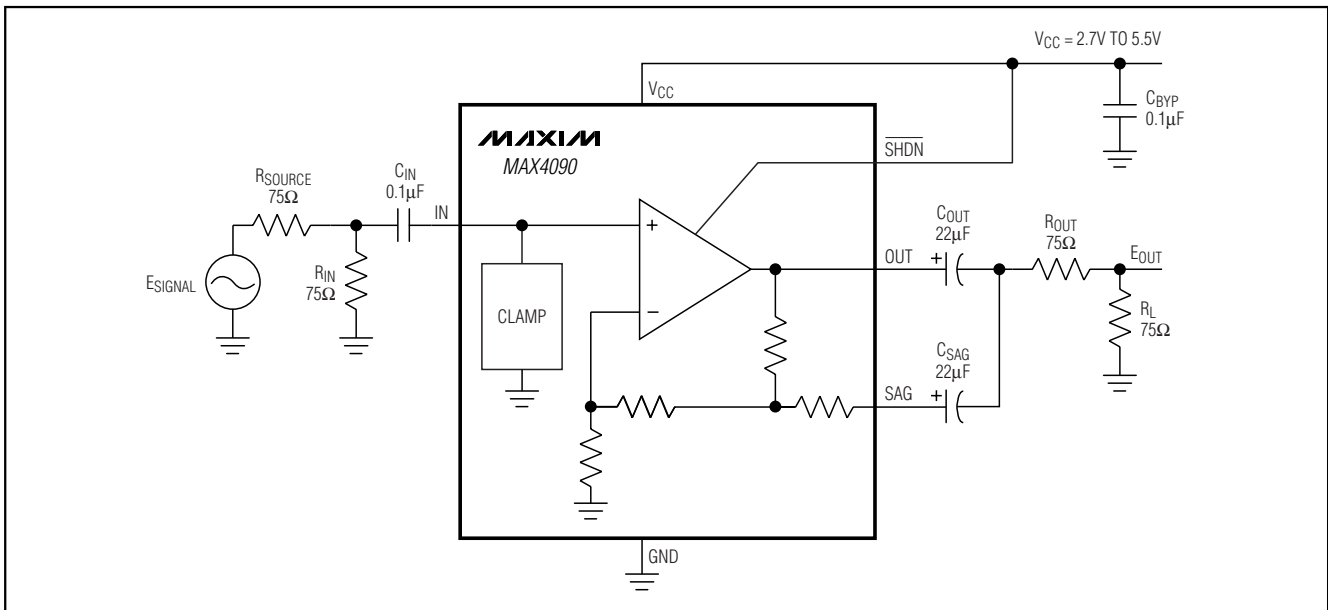

Figure 3. AC-Coupling the MAX4090
- 2) Two capacitors and 150Ω are connected between OUT, SAG, and ground (see Figure 3).
the gain, and creating a high-impedance node at the SAG output. This node is AC-coupled to the load in parallel with the normal output, as shown in Figure 3. This allows the use of two smaller capacitors (C_{OUT} and C_{SAG}), typically 22μF, substantially reducing the size of the interface caps and their cost while retaining the low-frequency response.
The MAX4090's output is configured to support AC-coupling with minimal capacitance. This is called "sag correction." It refers to the improved bandwidth achieved by using two smaller capacitors to replace a single large capacitor shown in Figure 3.